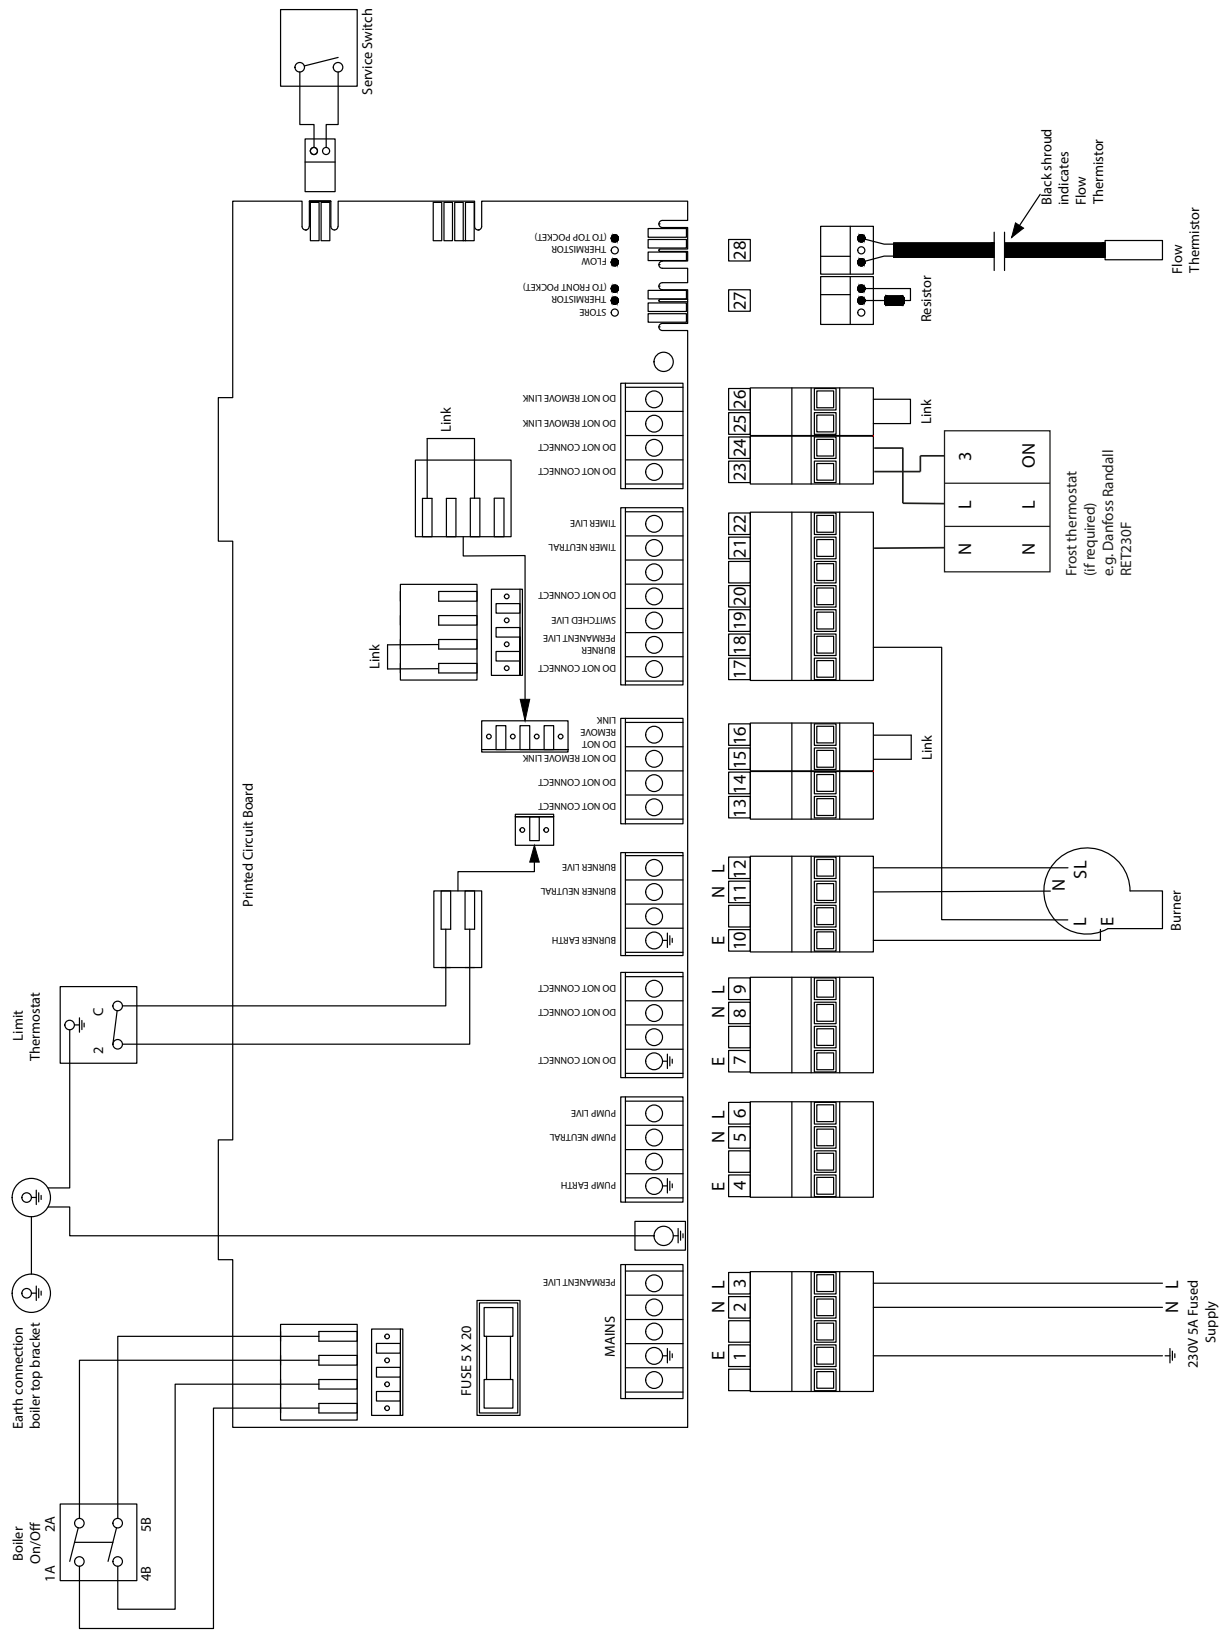

Figure 8-3: VortexBlue External Module control panel wiring diagram
- Frost thermostat Neutral (N) to terminal 21 on PCB connector.
- Frost thermostat Live (L) to terminal 24 on PCB connector.
- Frost thermostat Switched Live-ON (3) to terminal 23 on PCB connector.
6. Refer to Figure 8-3 for typical connection of Remote Frost Thermostat.